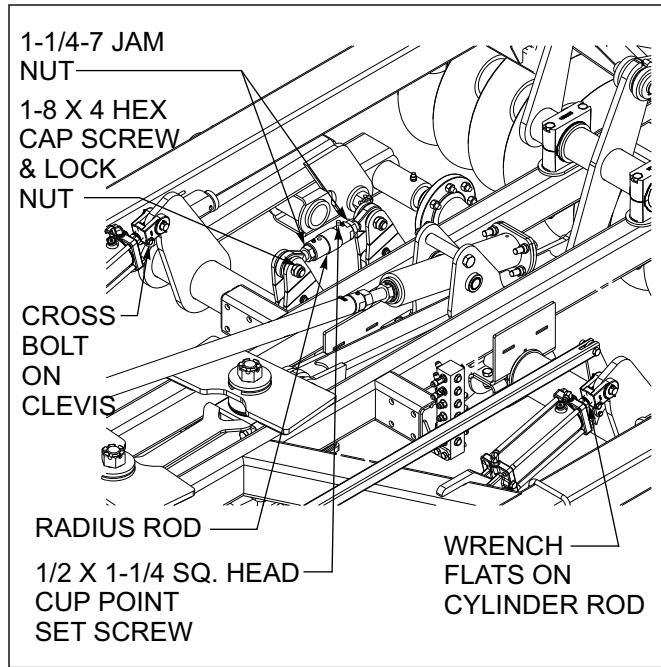

Figure 4-8: Center Frame Leveling
- e. Let the machine down onto the ground to relieve any pressure, but do not fully retract the cylinders. Remove 1-8 x 4 hex head cap screws from the radius rod assembly and remove from frame (**See Figure 4-8.**)